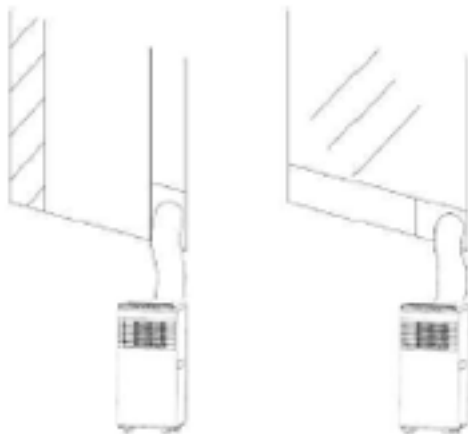

Fig 5
- 2) As shown in Fig.5, install the exhaust hose, and adjust the window position well.